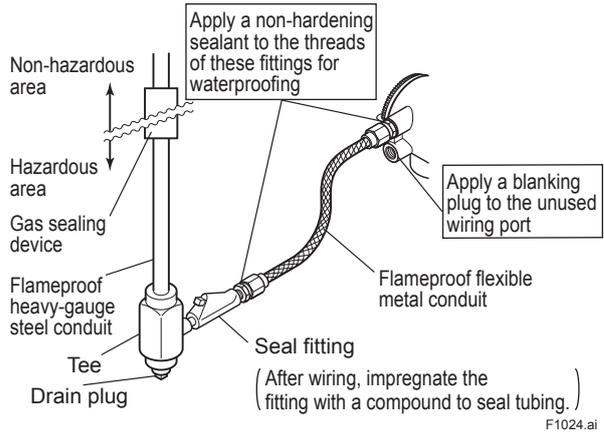

Figure 10.5.4 Typical Wiring Using Flameproof Metal Conduit
For the external wiring of flameproof types, use a flameproof packing adapter approved by Yokogawa (refer to Figure 10.5.2) or cable wiring using a flameproof metal conduit (refer to Figure 10.5.4 and "INSTALLATION AND OPERATING PRECAUTIONS FOR TIIS FLAMEPROOF EQUIPMENT" at the end of this manual).
- Every wiring port must apply the same wiring as Figure 10.5.4.